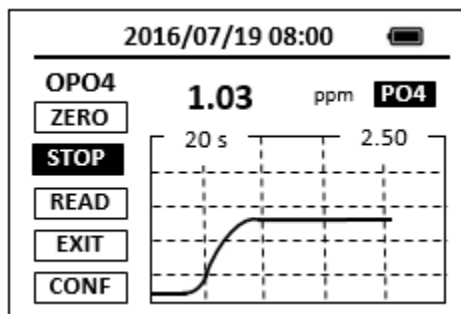

Figure 14. Concentration as a Function of Time
3. Place sample vial back into the sample vial compartment and press the timer button **TMR1**. The SP-910 will start to monitor the reaction between the reagent and the species you want to measure in the water sample. The concentration is shown in the chart as a function of time (Figure 14).
In order to show the concentration-time curve as shown in Figure 14 during the last timing step, The SP-910 must be zeroed using the prepared blank before the last timing step. Thus, the last timer button will not be selectable until the SP-910 has been zeroed using the prepared blank. Multi-timing step Hach® methods require zeroing the colorimeter using the prepared blank after the last timing step is completed. The SP-910 can optionally be re-zeroed using the prepared blank after the last timing step. The blank value measured will be subtracted from the concentration value measured at the end of the last timing step. Optionally, the **READ** button could be pressed to read the prepare sample again.
3. Place the prepared sample into the SP-910 sample vial compartment and press the **TMR2** button to start the second timer. The SP-910 will display the measured concentration as a function of time as shown in Figure 14.